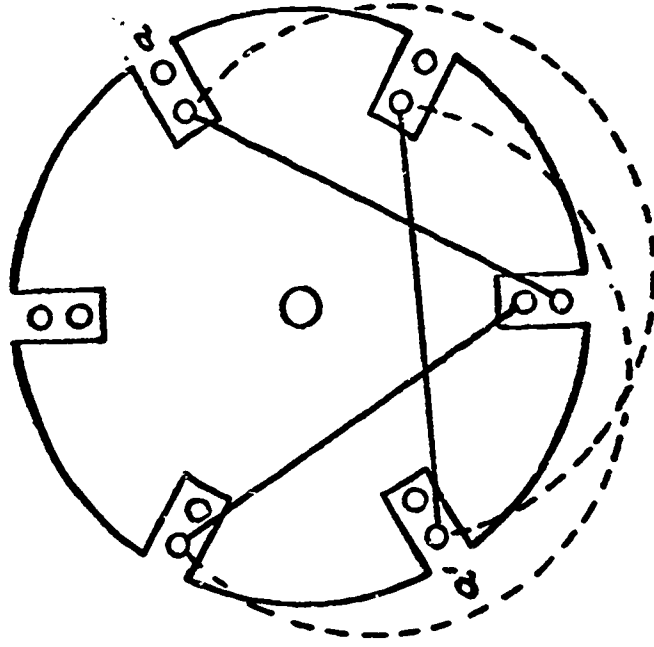
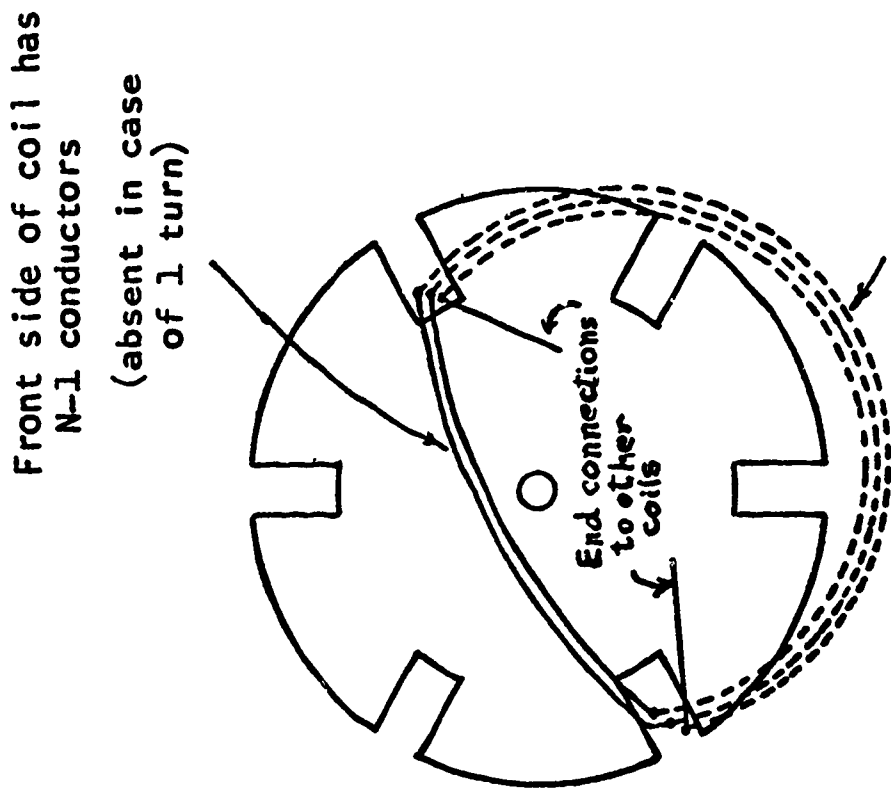

Figure 42.
Figure 43.  $N$  turns
(1) Conductors are placed in slots on the rotor (or stator) rather than on the surface, as we have shown them. Furthermore, surface space is conserved by placing the two adjacent loop sides above one another, as shown in the partially constructed winding in Fig. 42. It is a point of particular interest to observe that one side of a loop is on the inside of a slot, while the other side is on the outside.
(2) Up to this point it has been assumed that the lines on the wiring diagrams represent single wires. For example, in Fig. 42, it has been assumed that (a) and (a') represent the sides of a single loop of wire. This might actually be the case for a very low voltage generator. But in most cases, what we have
previously called a loop is usually a coil. We did not consider this fact earlier, in order to keep the diagram as simple as possible. In fact, we shall not attempt to show a complete winding with coils in all positions, but Fig. 43 shows one coil consisting of three turns, in the same position as loop (a-a') of Fig. 42.